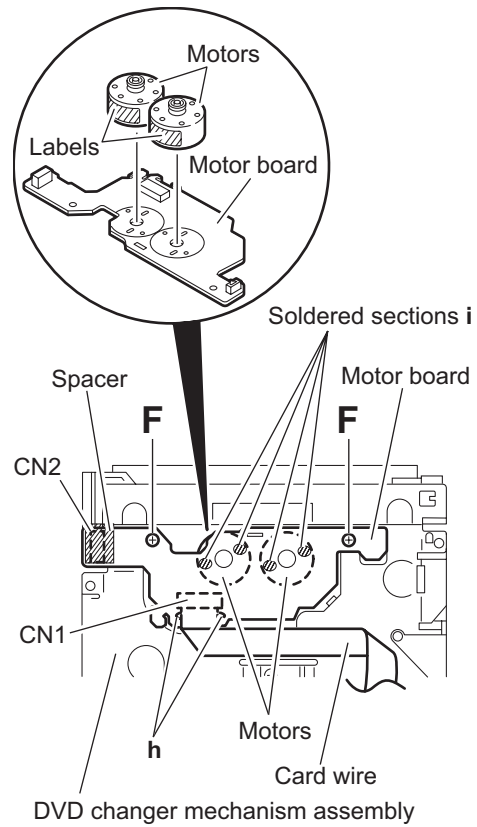

Fig.10
- (3) From the bottom side of the DVD changer mechanism assembly, remove the two screws **F**. (See Fig.10.)
- (4) Disconnect the connector **CN2** on the motor board from the tray switch board and remove the motor board. (See Fig.10.)
- (5) Disconnect the card wire from the connector **CN1** on the motor board. (See Fig.10.)
- When connecting the card wire, let the card wire through the slots **h** of the motor board. (See Fig.10.)
- When reattaching the motor, turn the side where the label should be put to the front side. (See Fig.10.)
- After connecting the motor board, attach the spacer on the motor board. (See Fig.10.)
3.2.5 Removing the motor (See Fig. 10)